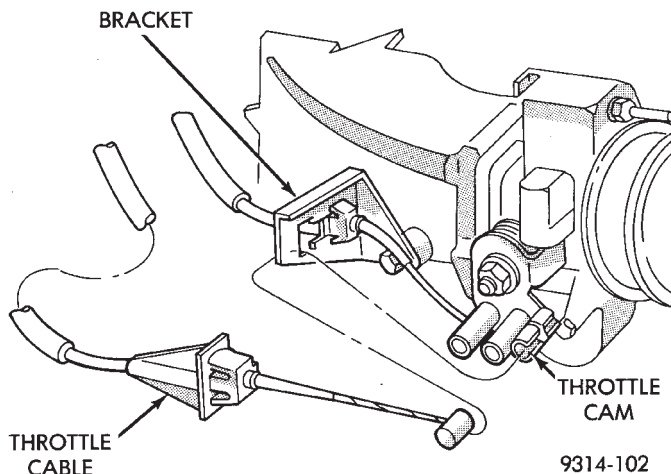
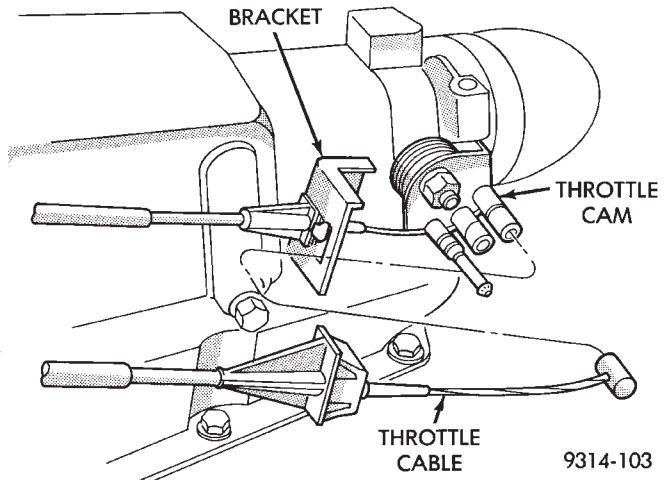

Fig. 5 Throttle Cable Removal/Installation—3.3L Engine
Fig. 6 Throttle Cable Removal/Installation—3.5L Engine
(1) Working from the engine compartment, hold the throttle body throttle lever in the wide open position. Pull the cable forward and slide it out of the throttle body cam (Fig. 5 or Fig. 6).